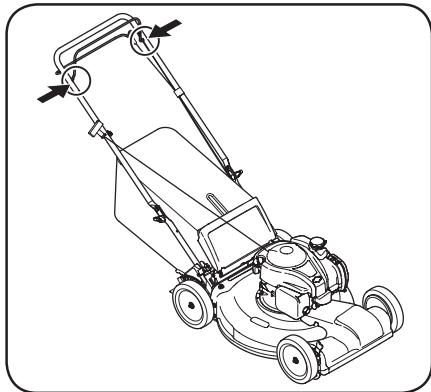

Figure 4-1
- Lubricate pivot points on the blade and drive controls at least once a season with light oil. These controls must operate freely in both directions. See Figure 4-1.